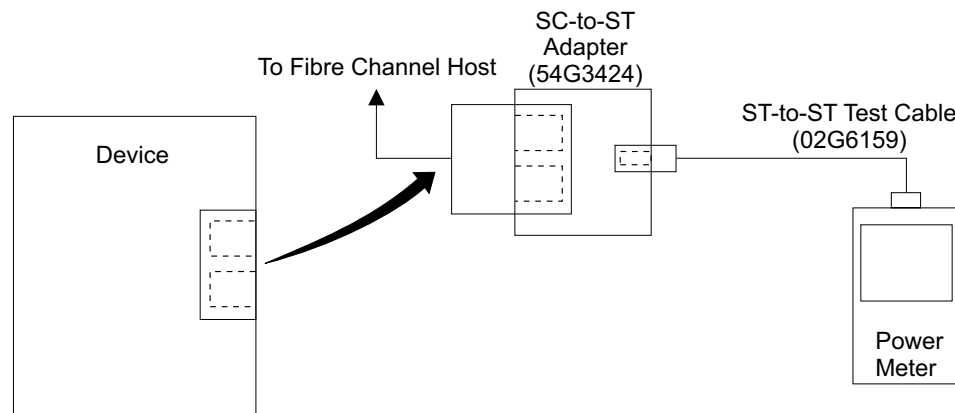

Figure 151. Measuring Fibre Channel Optical Receive Power (S008841m)
3. Connect the customer's fiber optic cable (that was removed from the 2105 Model Exx/Fxx Fibre Channel host card) to the SC-to-ST adapter (see Figure 151).